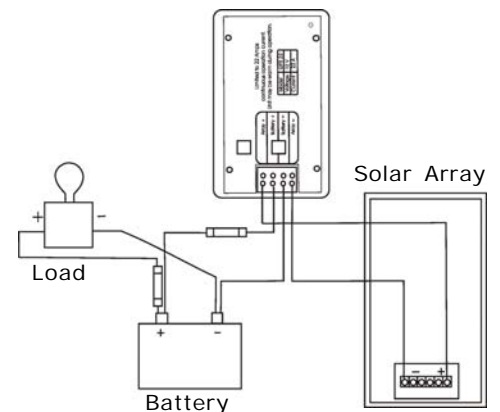
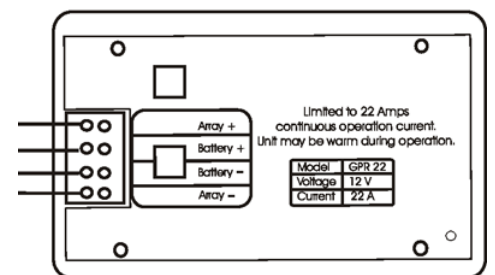

Figure 4 GPR-22 regulator wiring schematic
Figure 5 GPR-22 regulator wiring connection detail
- Wire the regulator according to the wiring schematic shown in **Figure 4** and **Figure 5**. Tighten all connections.